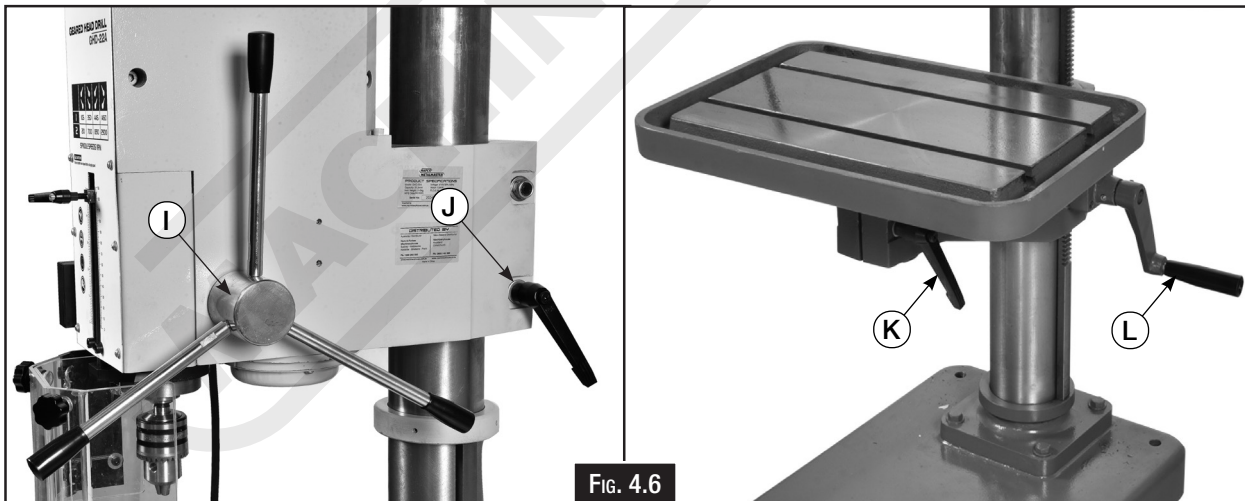

FIG. 4.6
- I. Spindle Operating Levers:** Used to move the spindle up and down. (Fig. 4.6)